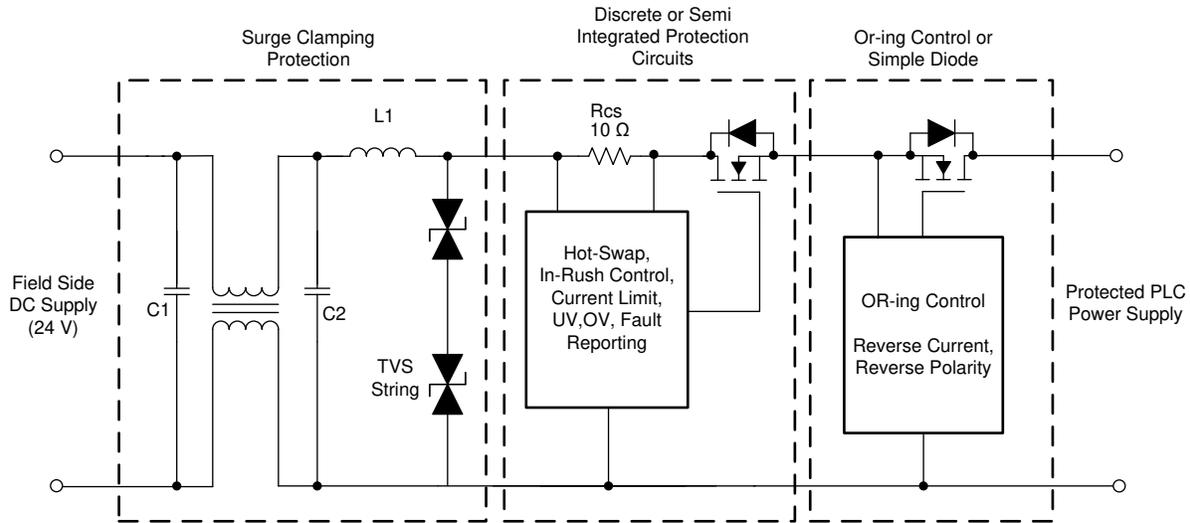

Figure 1-1. Traditional Input Protection Circuits
Typical traditional surge and front-end protection circuits used in a PLC system are shown in Figure 1-1. Input side passive components like common mode choke, series inductor and capacitors are used to reduce slew rate of the surge pulse. A string of TVS diodes is used to clamp the surge magnitude to an acceptable level. A series diode or an OR-ing controller with an external FET is used to protect the downstream from negative voltages. Negative voltages are most common either due to miswiring or a negative surge pulse. Discrete or semi-integrated solutions are used for hot-swap, inrush control, monitoring, undervoltage (UV) and overvoltage (OV) protection.